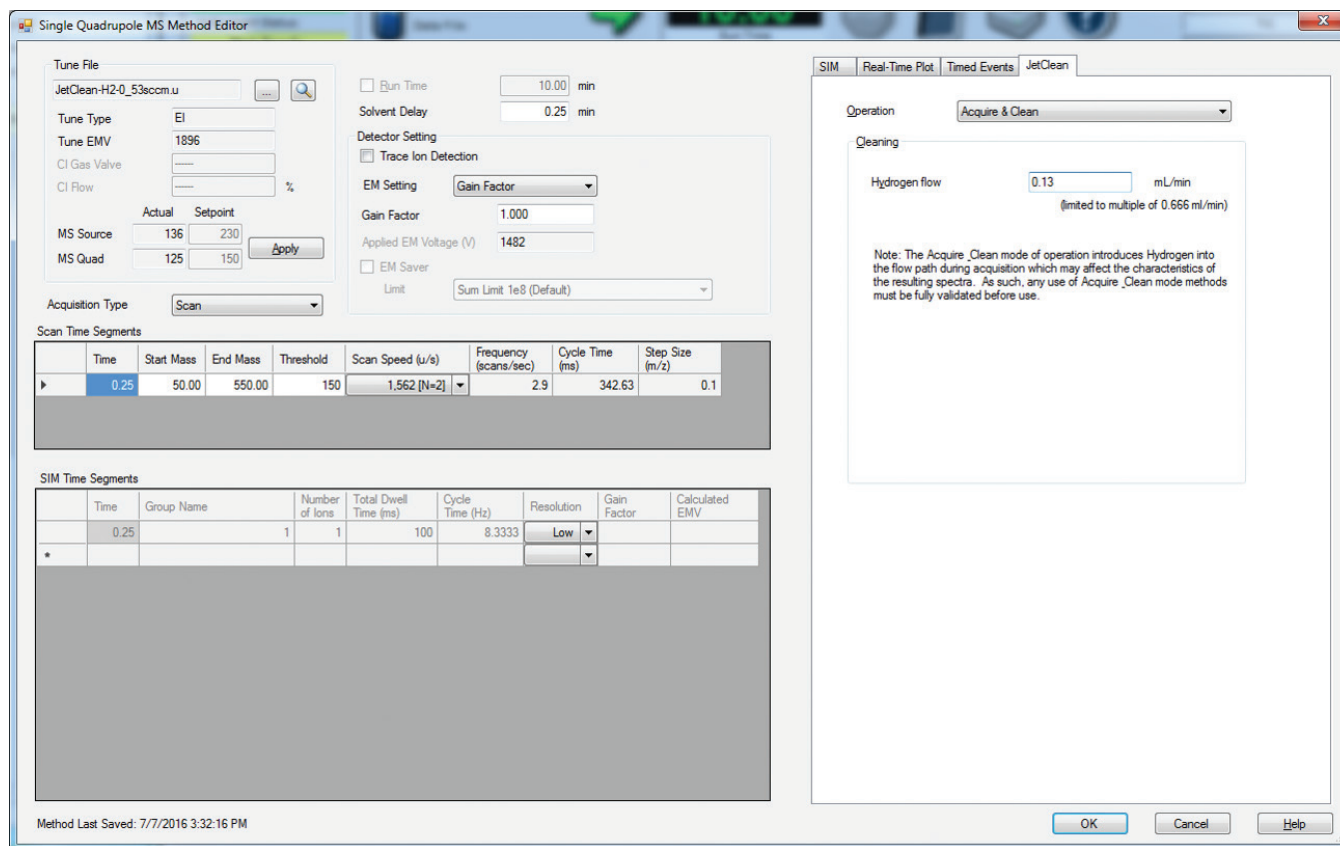

Figure 5. A) Acquire & Clean triple quadrupole. B) Acquire & Clean single quadrupole hydrogen flow setpoints.
In this approach, the GC method parameters developed for sample acquisition are not altered in any way, except for the addition of hydrogen at a very low flow. This low flow is selected and set in the MS parameters, and the method is saved. Figure 5 shows the JetClean parameter method panel for concurrent acquisition operation with hydrogen. Hydrogen flow is the only parameter that is set. Tables 1 through 3 show the range in these settings for the sources supported. The hydrogen flow in the JetClean parameter method panel must match the flow used during the tuning of the instrument. For the single quadrupole (SQ), Tune MSD must be used, not Atune. The tune file is made by tuning with the selected flow first, then loading the appropriate tune file, and flow setpoint in the panel. To easily select the proper tune file, include the hydrogen flow setting (for example, Atune-H2-0_13sccm...) in the tune file name, then select and save this before the tuning is started. Warnings will be given if the tune file flow does not match the method flow setpoint. Tune reports cite the hydrogen flow setting.